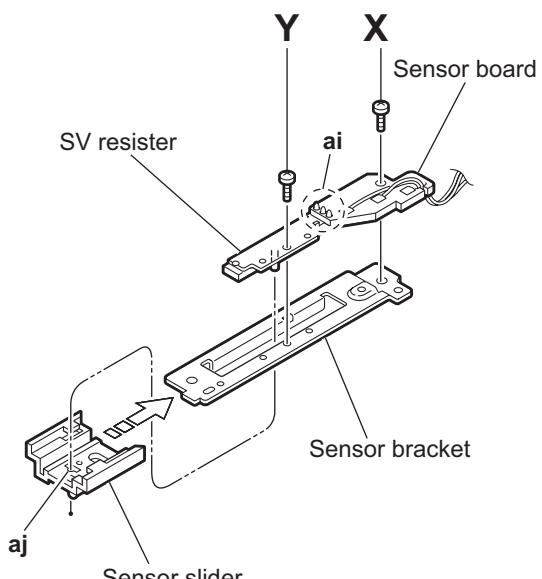

Fig.37
- Remove the screw **X** and **Y** attaching the sensor board and SV. resister respectively. (See Fig.37.)
Remove the soldered section **ai** on the sensor board as required. (See Fig.37.)